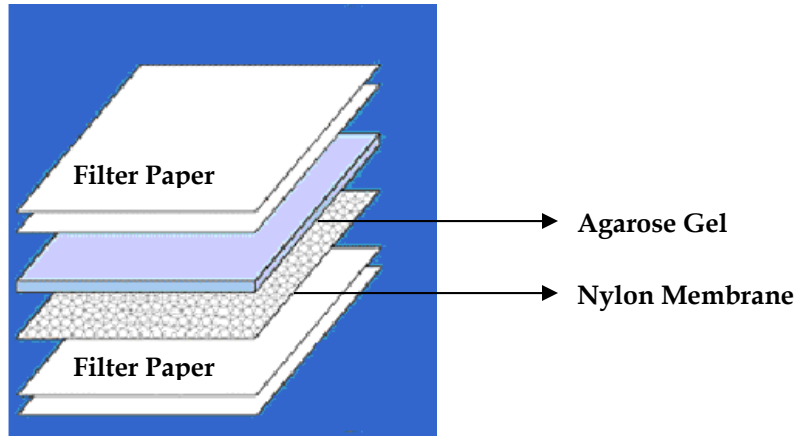

Fig 1: Arrangement of the gel and membrane for transfer
II. Southern Blotting: Southern blotting is the electro transfer/capillary transfer of resolved DNA fragments from the agarose gel to the nitrocellulose/nylon membrane. For this transfer procedure, the gel is placed on the membrane and both of them are sandwiched between two filter papers as shown in Figure 1:
During electro transfer the DNA bands are transferred to positively charged nylon membrane in the presence of a specific buffer. First transfer the set (as shown in Fig 1) between two sponge pads and then place it in a plastic cassette. The entire set is then placed inside a gel tank filled with transfer buffer. The resolved DNA fragments are transferred to the corresponding positions on the nylon membrane after the electro transfer. The DNA of interest is detected on the membrane.
1. Assemble the gel with nylon membrane and filter papers as shown in figure 1. This blotting sandwich is placed within the sponge and blotting cassette. Try to avoid air bubble between gel and nylon membrane by rolling a glass tube on the membrane.